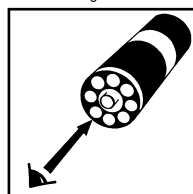

Figure 4
- a. **Low Range Comparator (fig. 4):**